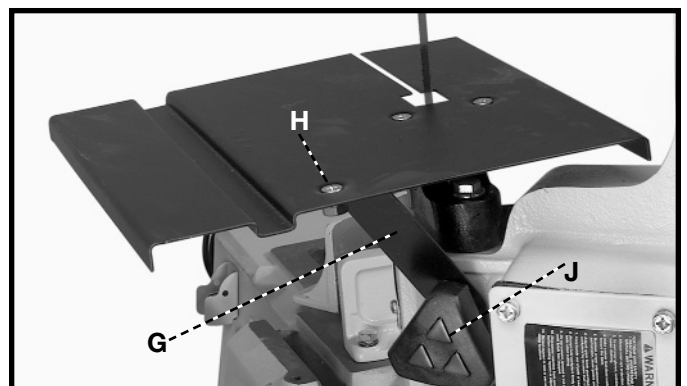

Fig. 35
4. Assemble one end of the table support bracket (G) Fig. 35 to the table using a 1/4-20x1/2" flat head screw and 1/4-20 nut (H) and the other end underneath the guide bracket lock knob (J), as shown in Fig. 35.